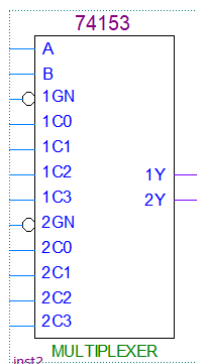

Figure 4: 74'153 in Quartus.
1. When you use Quartus to design with a 74'153 MUX (available under `others\maxplus2\74153`, and shown in Figure 4), you will find that the select lines are labeled A and B. Which select inputs correspond to A and B for you MUX? Verify the functioning of a 74'153 MUX (and if $A \cdot B = S_1 \cdot S_0$ or $A \cdot B = S_0 \cdot S_1$) by creating a new Quartus circuit (in a new project and file, **Lab2_MUX_TEST**) using only this chip, inputs, and outputs. Simulate this design using enough different input combinations to prove that the 74'153 works as you suspect it should. Note: For every "new" part you use (like the 74'153), if you are not sure of a pins function, you should verify its operation before using it in a circuit. Include this design and simulation in your pre lab document. Submit the archive file **Lab2_MUX_TEST.qar** through Canvas.
- Design a circuit (**lab2_EQU.bdf** in project **lab2_EQU**) to implement this equation with a single 74'153 chip (in Quartus) and (only if necessary) the gates available on 74'00, 74'02, and/or 74'04 ICs. But do not use the MUX enable in this design. Your design must (non trivially) use a 74'153. Use the MUX select lines as follows: $S_1 = W(H)$ and $S_0 = Y(H)$. Note that the 74'153 (see Figure 4) includes two 4 input MUX's.